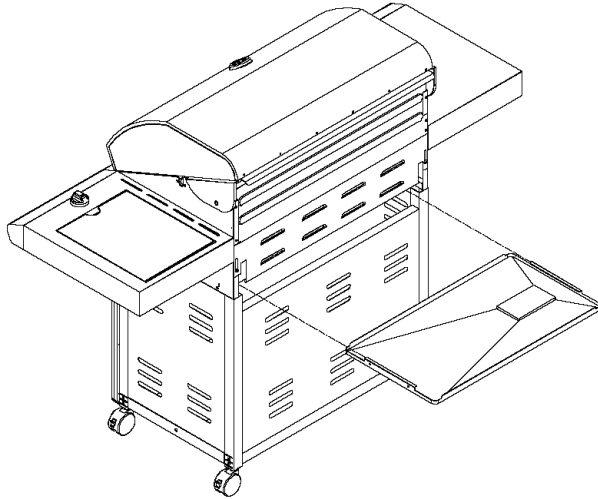

Figure 3
- Slide the Tray side tabs over the side rails underneath the Grill Bowl. (See Figure 3).